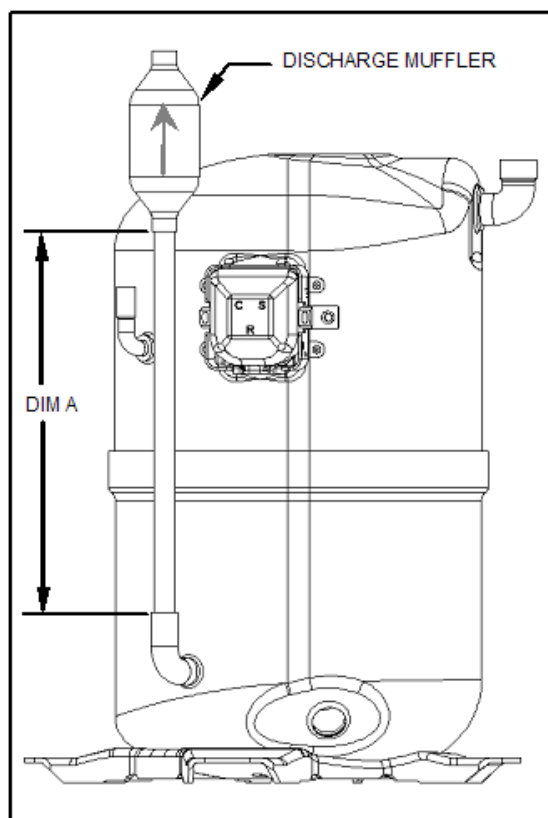

FIGURE A.1
- It is preferable that the muffler be installed as shown in Figure A.1 with use of the muffler shown in Table A.1. However, if it is necessary that bends be placed in the tube between the compressor and the muffler, both indoor and outdoor sound evaluations must be performed to confirm acceptance of the final configuration. Bristol field testing indicates any bends prior to the muffler can result in increased sound and tubing vibration.